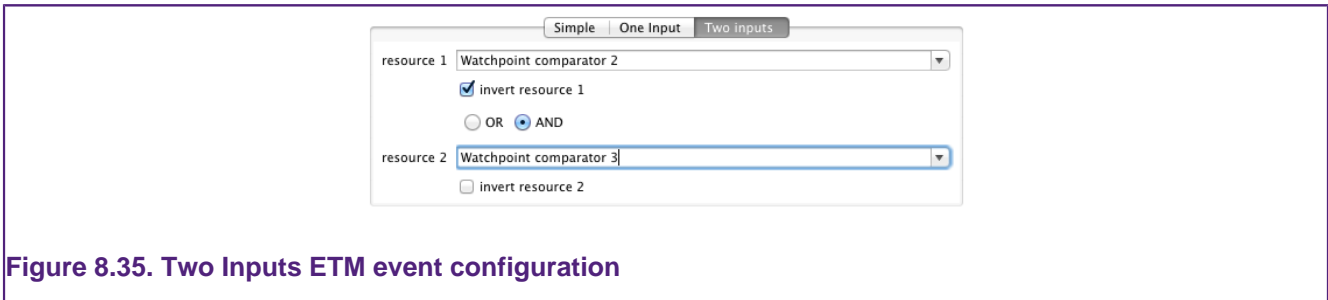

Figure 8.35. Two Inputs ETM event configuration
- To combine two event resources select the **Two Inputs** tab. The events can be chosen from the drop-downs and the logical combination operation selected. As with the **One Input** tab the resources can be inverted. See Figure 8.35.